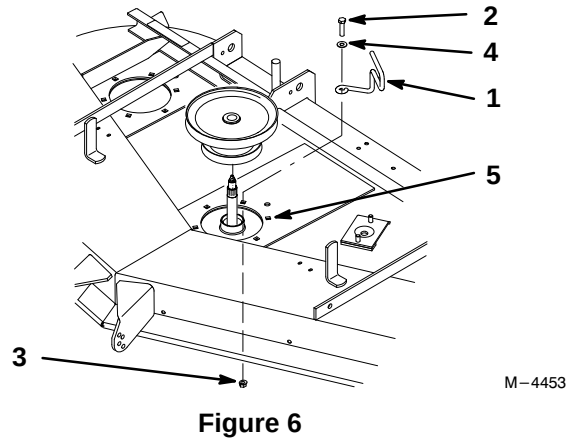

Figure 6
2. Remove existing carriage bolt and nut (Fig. 6).
IMPORTANT: Remove only this specific bolt to install belt guide (Fig. 6).
3. Install removed carriage bolt and nut into where the existing belt finger was installed (Fig. 6).
4. Install new bolt, washer, nut and belt guide (Fig. 6).
8. Install drive belt (Fig. 6).